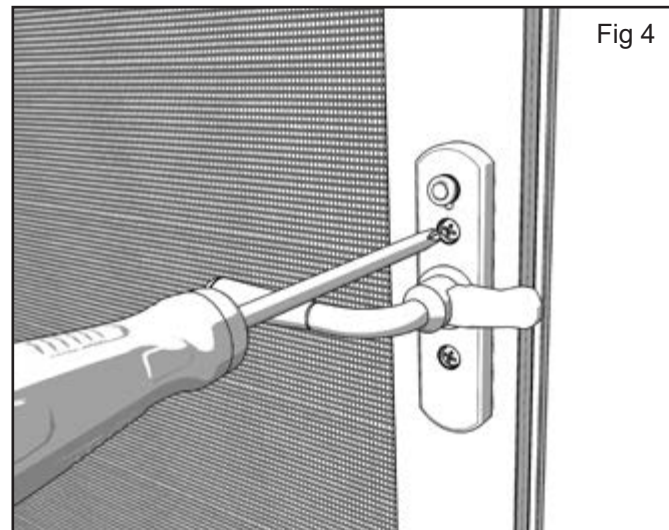

Fig 4
- D. Tighten screws BY HAND ONLY (**Fig 4**).